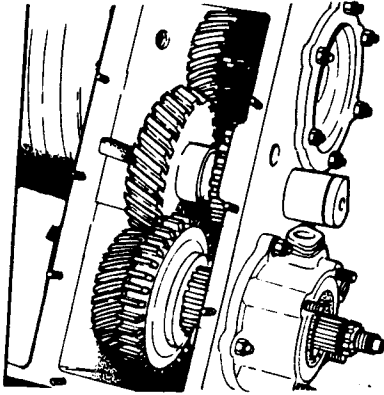

Fig H2.12
- (3) Refer to Fig H2.12. Fit the gear, bearings and washer assembly, centring them perfectly with the shaft hole and push the latter in with the hand until it reaches the shaft seal. Continue pushing the shaft home with the aid of a plastic mallet.